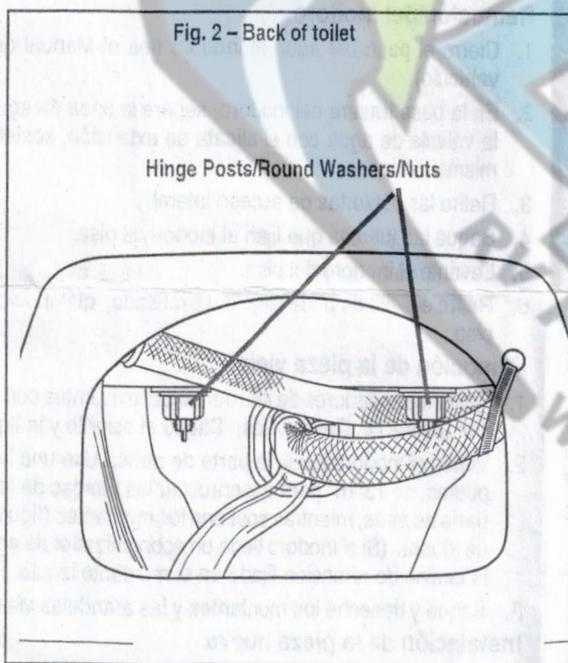

Fig. 2 - Back of toilet
2. Turn toilet to back. Inside, use 13/16", 12-pt. Socket to remove Hinge Post Nuts while holding Hinge Posts (Fig. 2) on outside. (If toilet has an optional Water Saver, remove Tie-Down Strap attached to left Hinge Post.)
III. 2 – Arrière des toilettes**Fig. 2 – Parte de atrás del inodoro**